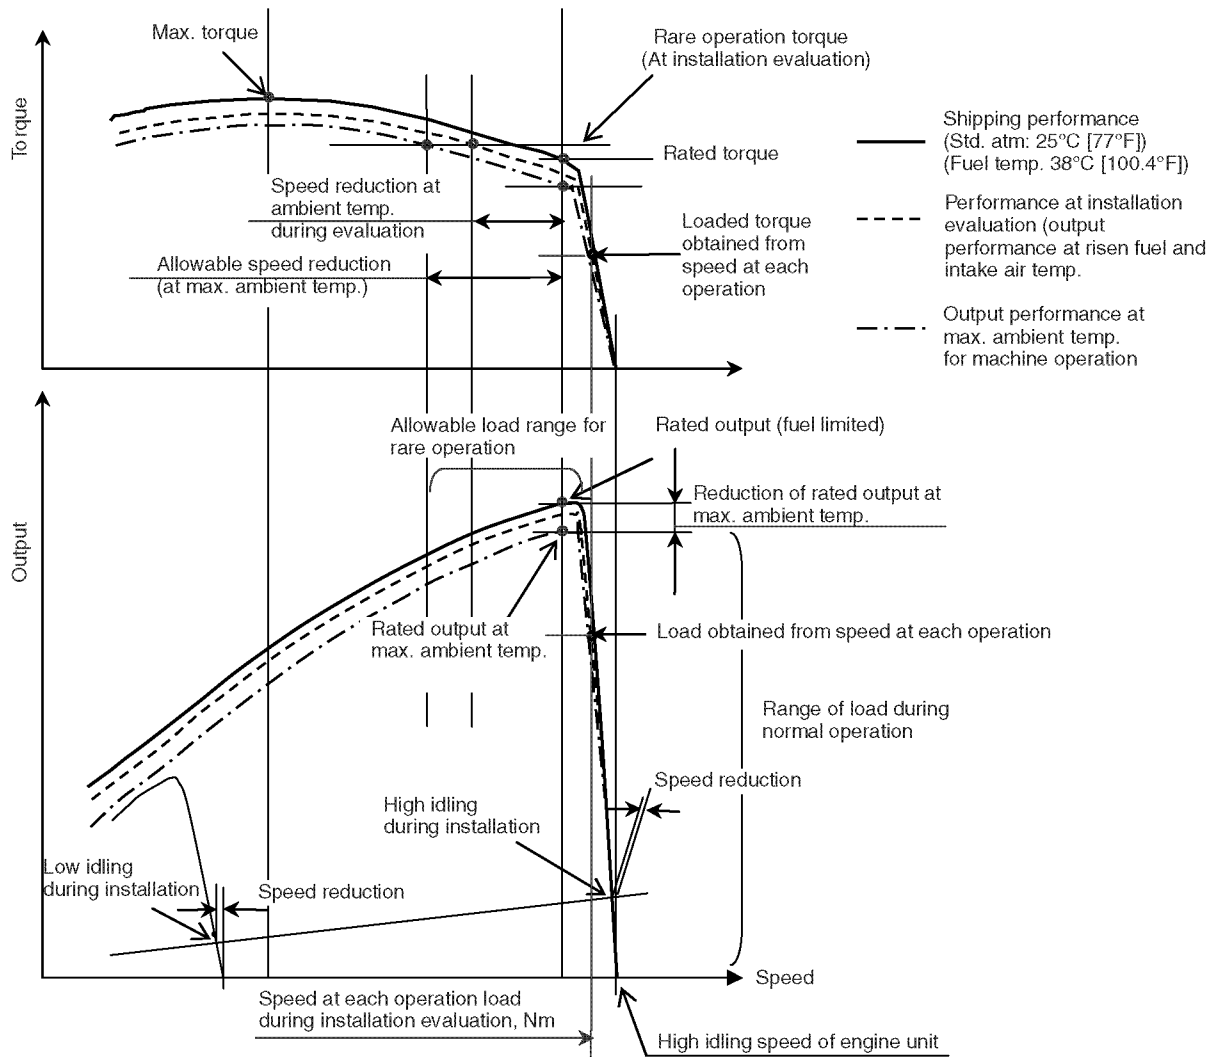

Figure 12-15
- The plot data provided beforehand for obtaining the performance curve (solid line) by the measurement using the sample engine are multiplied by the above total output ratio P_{rx} over the whole plot area **(Figure 12-15)**.
- The result is the performance curve shown in **(Figure 12-15)** with a dot-and-dash line. This line shows the engine performance at the maximum ambient temperature T_x specified by the machine manufacturer.
Plot this load on the performance curve shown with dot-and-dash line on **(Figure 12-15)**, and perform the following examination.
Evaluation of output matching at the rare operation of the machine (shown with * in Figure 12-15)